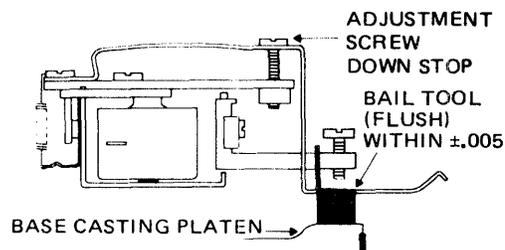

FIGURE 3 HEAD LOAD ACTUATOR DOWNSTOP ADJUSTMENT
- Adjust down stop so that the top of Head Load Bail is flush with top of tool within $\pm .005$ " at track 76. Reference Figure 3.